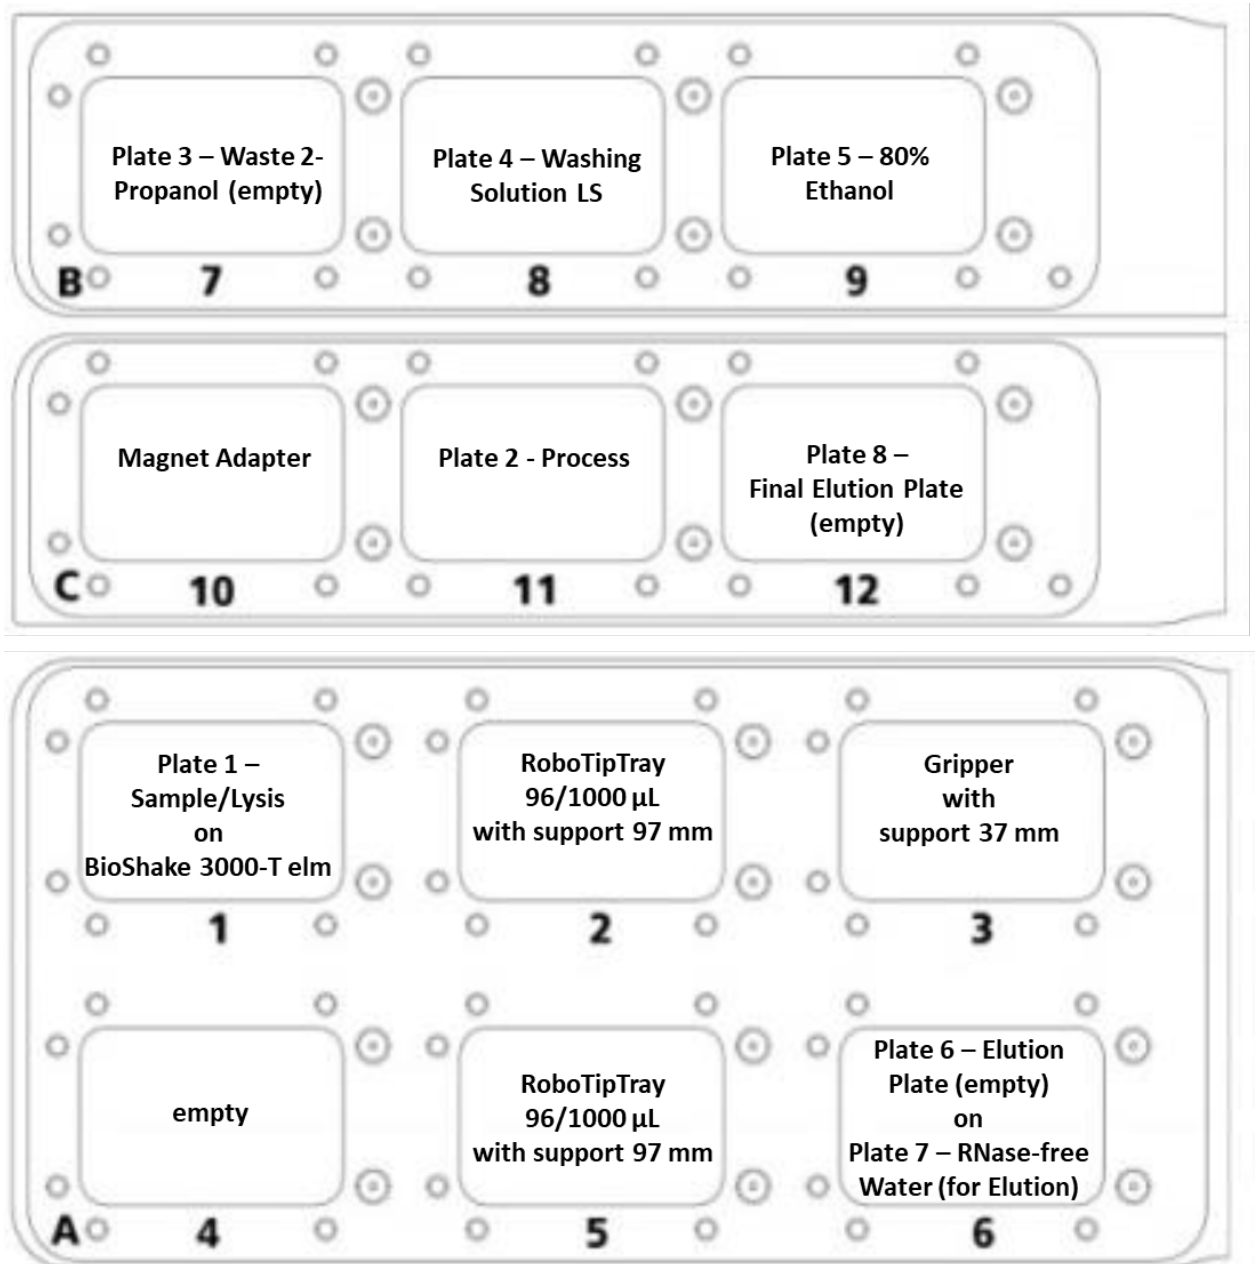

Figure 19: Deck layout for extraction.
3. Select “Magnetic Beads” (→ see Figure 19).